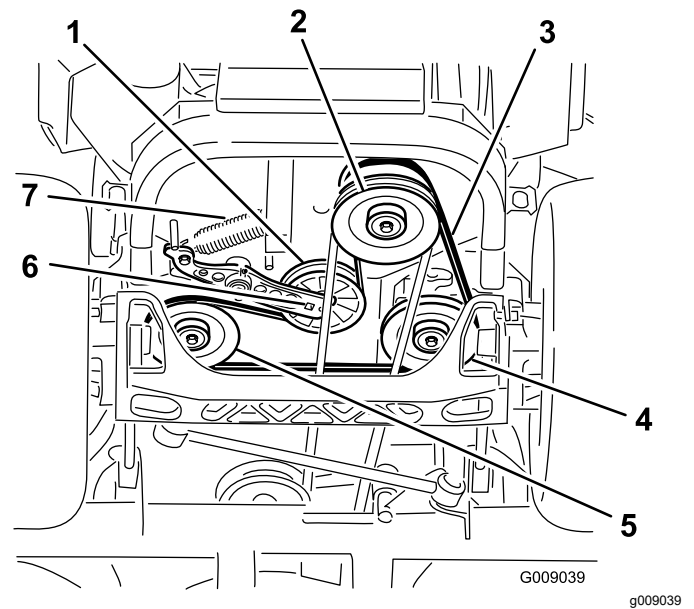

Figure 81
4. Raise the machine and support it with jack stands (Figure 81).
5. Use a ratchet in the square hole in the idler arm to remove the idler spring (Figure 81).
6. Unhook the idler spring from the frame (Figure 81).
9. Using a ratchet in the square hole in the idler arm, install the idler spring to the frame (Figure 81).